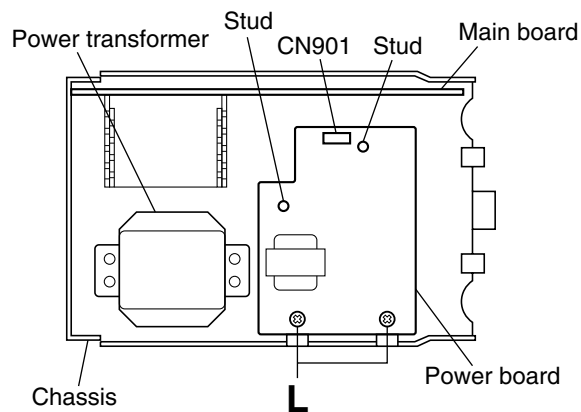

Fig.15
■ Removing the power board (See Figs. 15 and 16.)